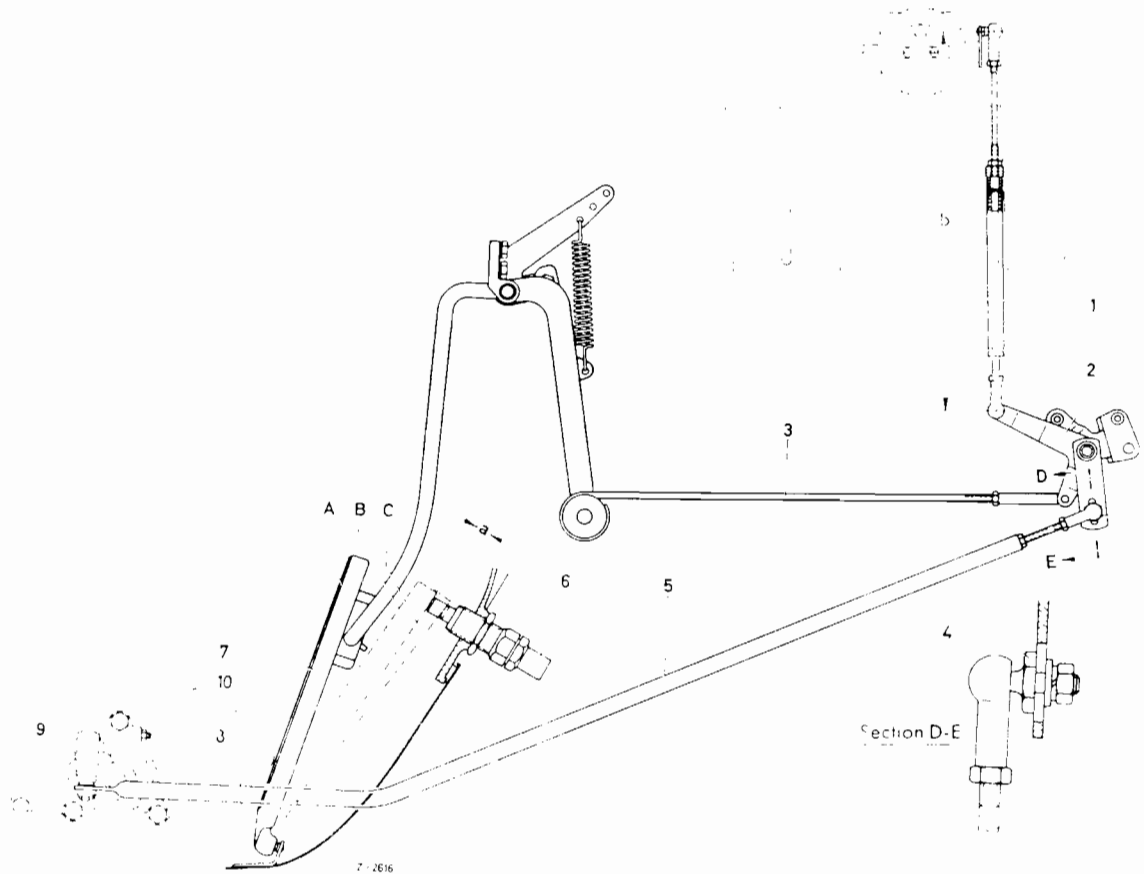

Fig. 27-4/8
Check idle, full throttle and kickdown modulating pressure. If the idle modulating pressure is not reached, the operating lever of the modulating pressure transmitter will not return to its zero position. If required free up the joint of the control rod. **The basic adjustment screw (10) has been set in our works; under no circumstances should its setting be altered (Fig. 27-4/8).**